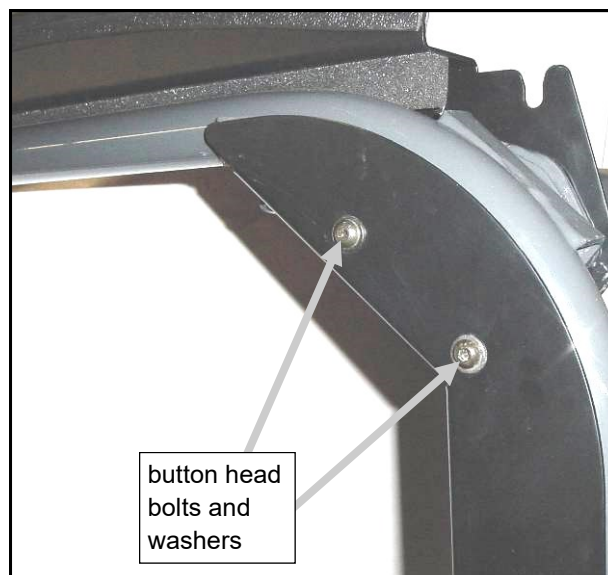
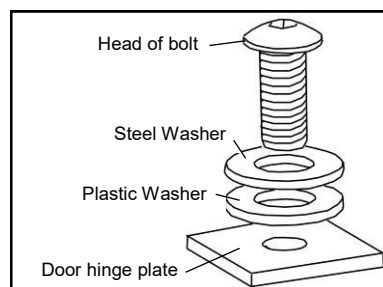
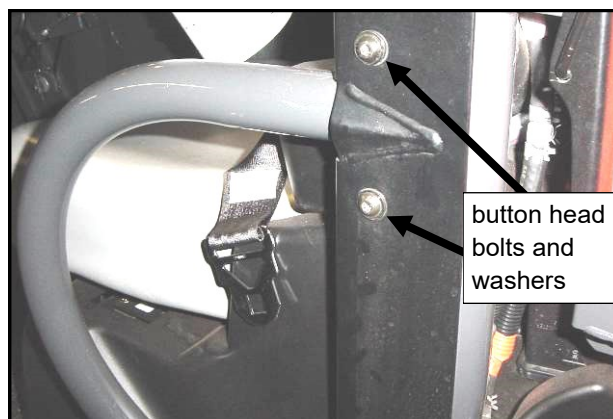

Fig. 2.4 (view of driver's side)
Fig. 2.4.1 (placement of plastic washers)
Fig. 2.5 (view of driver's side)
2.4 Install a door hinge plate to the outside of the rear ROPS tubing on the driver's side as shown in fig. 2.4. Use the following hardware: two 5/16-18 x 1" long button head bolts, four steel flat washers (5/16"), two plastic washers (3/8"), and two locknuts (5/16-18). Locknuts and two steel washers to be on the inside of the cab. See fig. 2.4.1 for placement of plastic washers on the outside surface of the door hinge plate. Leave bolts loose.
2.5 Fasten the lower portion of the door hinge plate to the hip restraint tube as shown in figure 2.5 using the ROPS U-clamps provided and the following hardware: two 5/16-18 x 1" long button head bolts, four steel flat washers, two plastic washers (3/8"), and two locknuts (5/16-18). Locknuts and two steel washers to be on the inside of the cab. Be sure to orient the U-clamp so that the angle of the clamp is aligned with the angle of the ROPS hip restraint tube that it fastens to. See fig. 2.4.1 for placement of plastic washers on the outside surface of the door hinge plate. Leave bolts loose.